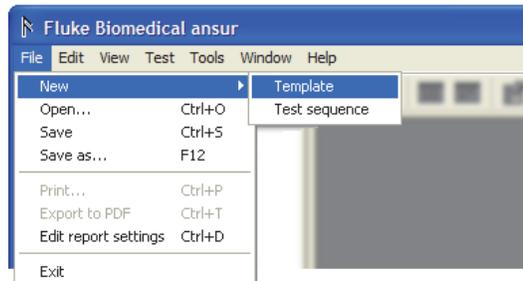

Figure 3-48. Creating a New Template
- Click **File | New | Template** as shown in Figure 3-48 or click the **New Template** icon (📄) on the main toolbar.